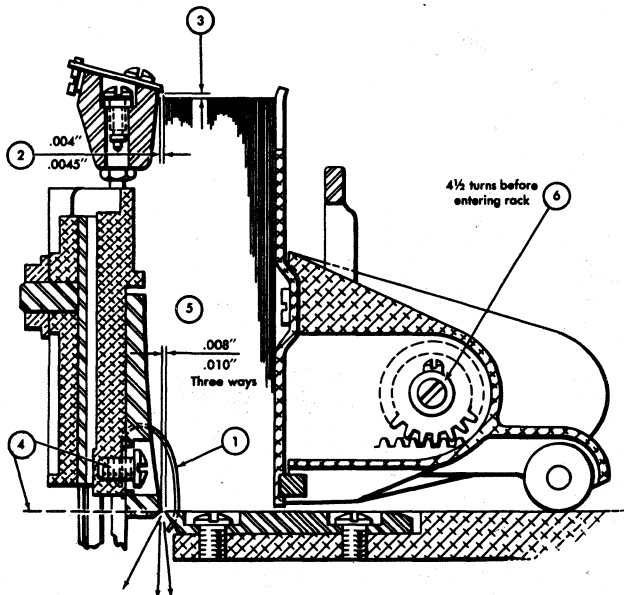

Figure 17. Hopper Adjustment
Magazine Springs. Form magazine springs to touch feed bed (1, Figure 17).
Feed Knives. Adjust feed knives with a GO/NO-GO gage for a projection of .004 inch to .0045 inch (2, Figure 17). With CF latch armature engaged with CF cam follower arm, adjust both feed knives evenly to give minimum clearance of .015 inch (.040 inch maximum) from feed knives to top edge of cards in hopper (3, Figure 17).
Throat. Adjust throat block (4) to place crown in direct line with top edge of throat knife. Adjust throat knife (5) for an opening of .008 inch to .010 inch. If throat block is properly adjusted, a .008-inch gage should freely pass in three directions (Figure 17), but a .010-inch gage will not.